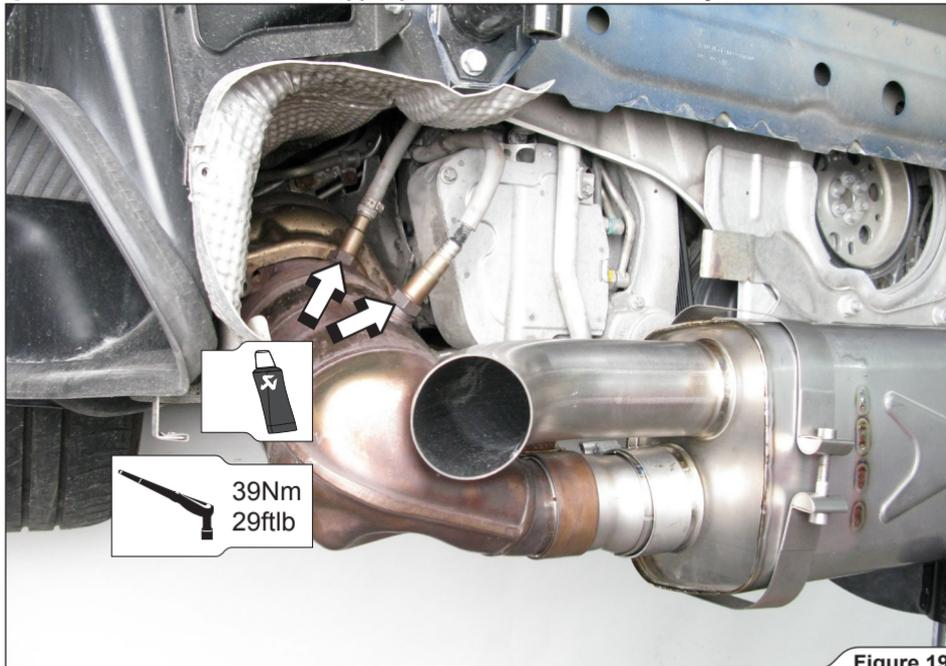

Figure 19
6. **For Slip-On only:** bring the assembled muffler/stock link pipes near the final position on the vehicle and tighten the lambda sensors (**Figure 19**). Repeat the process on both sides of the vehicle.